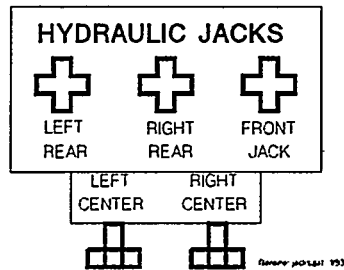

Figure 6) Leveling Controls.
The sample truck is raised by three (3) hydraulic rams located at both ends of the truck and is leveled using portable hand levels. Two additional rams, located on each side of the truck are used to stabilize the truck during platform rotation. The hydraulic controls associated with leveling are the 4-way manual control valve and the turn valves which control flow to each of the jacks (see Figure 6 below).
- OP/CE ____/____ 7.3.4 **LOWER** the front and rear lifting jacks to the ground using the control valves. (See Figure 6)
- OP/CE ____/____ 7.3.6 **ENSURE** that the HYDRAULIC JACK control valves are closed. (See Figure 6)